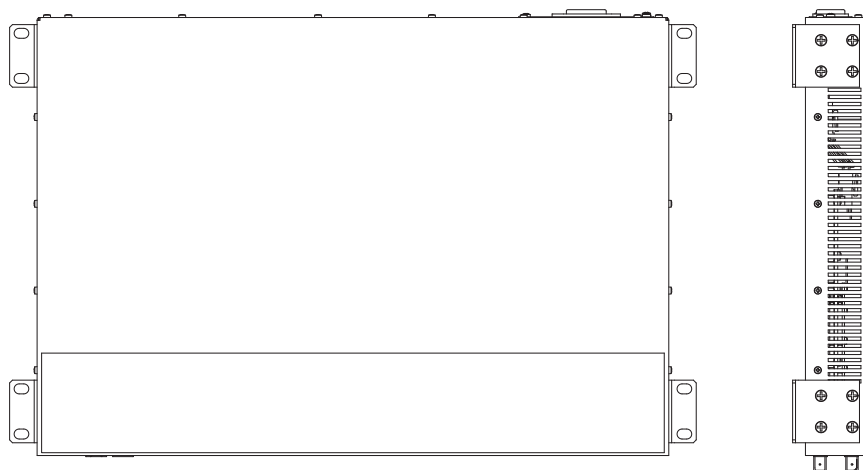

Figure 14: Mounting on a flat surface
- ☐ Move the 2 pre-installed mounting brackets on the front side into the position shown in figure 14.
- ☐ Additionally attach 2 brackets to the rear of the device as shown in figure 14.